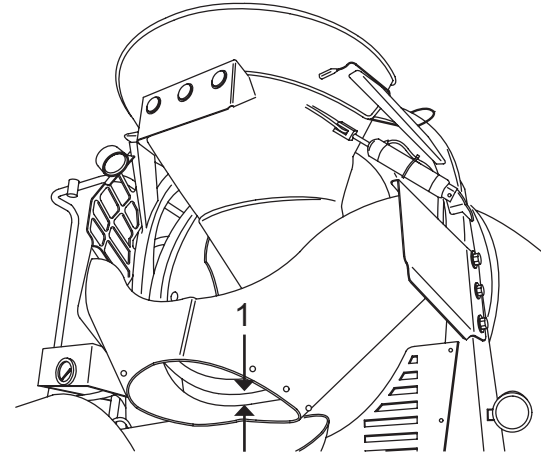

Figure 163
5. Check the discharge hopper-to-drip ring clearance (Figure 163, Item 1). Clearance should be 2 inches (51 mm) between the discharge hopper face and the drip ring, and no more than 1 inch (25 mm) radially around the drip ring.